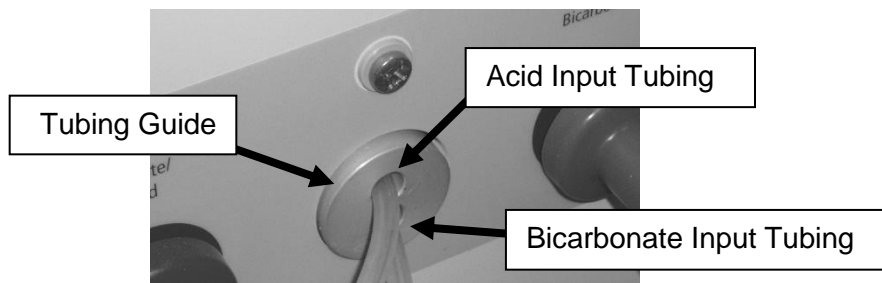
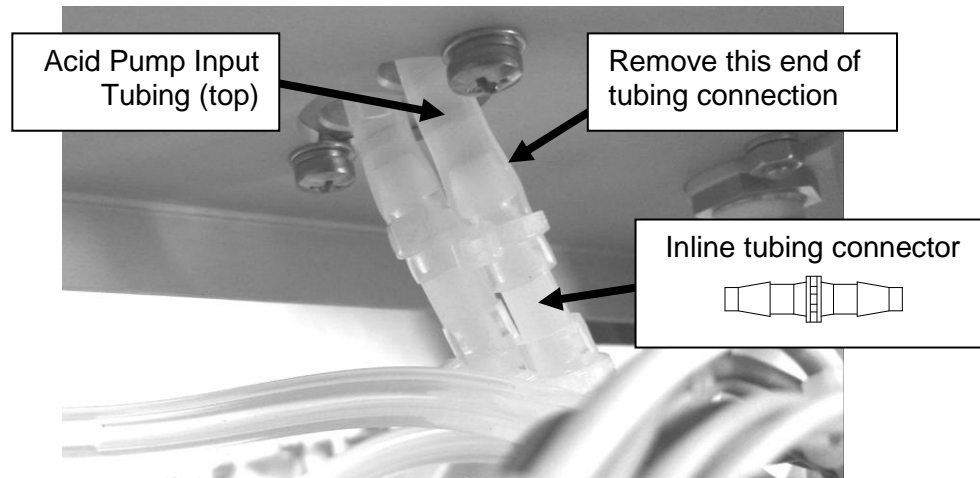
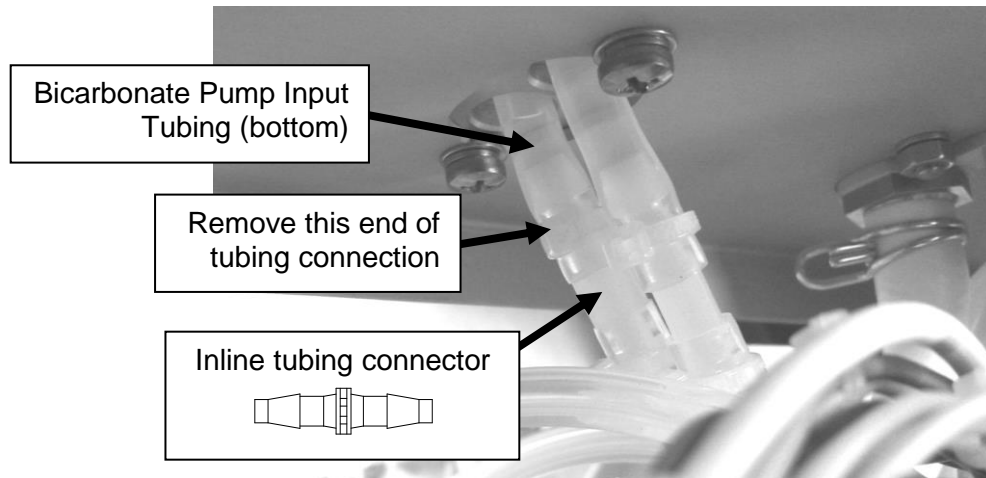

Figure 6 – Tubing Guide
Figure 8
Figure 12
7. Verify the tubing going through the top of the tubing guide (Figure 6) is connected to the input of the acid pump. The acid pump input tubing (clear) is connected to the lower port on the acid pump. This port color is white.
8. Verify that the tubing going through the bottom of the tubing guide (Figure 6) is connected to the input of the bicarbonate pump. The bicarbonate pump input tubing (clear) is connected to the lower port on the bicarbonate pump. This port color is white.
9. Locate the back side of the tubing guide (Figure 6). Behind the tubing guide there will be an inline tubing connector (Figure 8).
10. Remove ty-wrap from the acid pump input tubing and remove the tubing from the inline connector (see Figure 8).
17. Locate the back side of the tubing guide (Figure 6). Behind the tubing guide there will be an inline tubing connector (Figure 12).
18. Remove ty-wrap from bicarbonate pump input tubing and remove the tubing from the inline connector (see Figure 12).